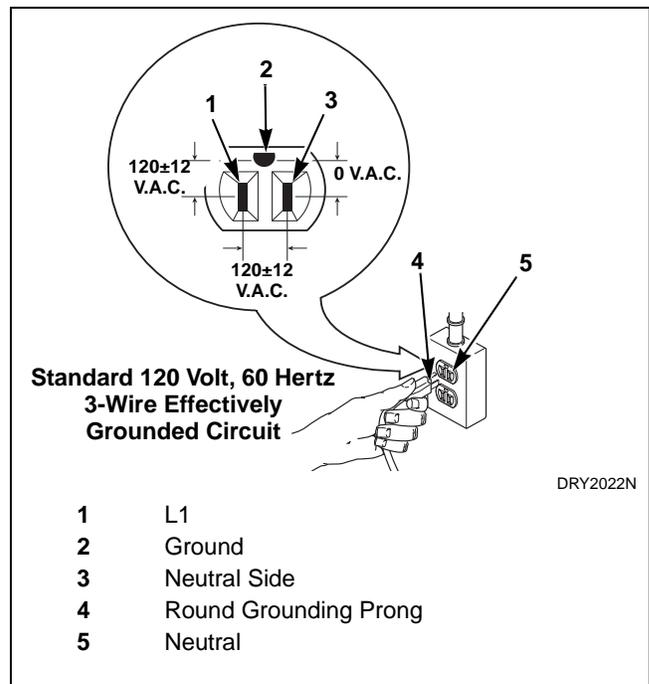

Figure 12
The three-prong grounding plug on the power cord should be plugged directly into a polarized three-slot effectively grounded receptacle rated 110/120 Volts AC (alternating current) 15 Amps. Refer to *Figure 12* to determine correct polarity of the wall receptacle.
**NOTE: Have a qualified electrician check the polarity of the wall receptacle. If a voltage reading is measured other than that in *Figure 12*, the qualified electrician should correct the problem.**